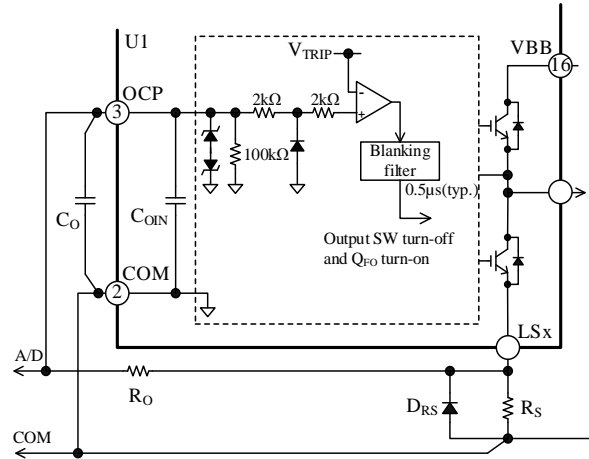

Figure 12-18. Internal Circuit Diagram of OCP Pin and Its Peripheral Circuit
Figure 12-18 is an internal circuit diagram describing the OCP pin and its peripheral circuit. The OCP pin detects overcurrents with the input voltages across external shunt resistors, R_{Sx} . Because the OCP pin is internally pulled down, the OCP pin voltage increases proportionally to a rise in the current running through the shunt resistor, R_{Sx} .
As illustrated in Figure 12-18, a 4.7 nF chip capacitor, C_{OIN} , is internally connected to the OCP pin. When you connect a CR filter (i.e., a pair of a filter resistor, R_O , and a filter capacitor, C_O) to the OCP pin, care should be taken in setting the time constants of R_O , C_O , and C_{OIN} . The larger the time constant, the longer the time that the OCP pin voltage rises to V_{TRIP} . And this may cause permanent damage to the transistors. Consequently, a propagation delay of the IC must be taken into account when you determine the time constants. For R_O and C_O , their values should satisfy Equation (3):